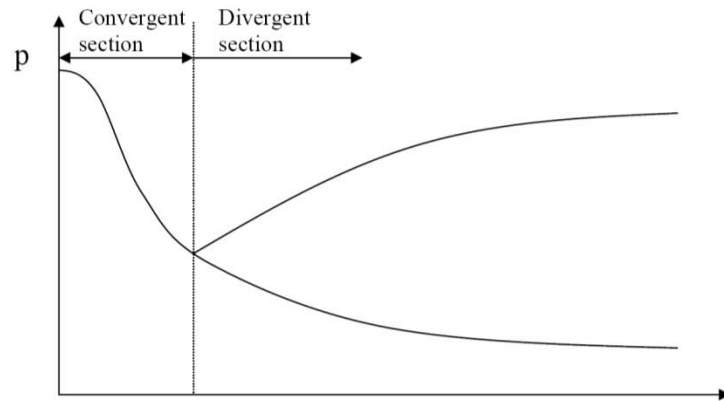

Figure 3 Pressure profiles in convergent-divergent nozzle at the maximum flow rate
Isentropic compressible flow through convergent-divergent nozzle at the maximum flow rate results in pressure profiles shown in Fig. 3. According to Eq. (7), there are two pressure profiles in the divergent section of the nozzle. The top profile represents subsonic flow, whereas the bottom profile represents the supersonic flow. Note that subsonic flow yields higher pressure at the nozzle exit than supersonic flow.